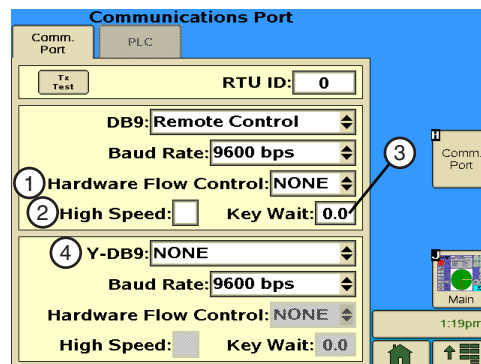

Figure 43-1 1. Hardware Flow Control Field
1. Push **Setup, Comm. Port, Comm Port** to display the Communications Port screen. Refer to Figure 43-1.
1. Select the **Key Wait** field for the com port. Refer to Figure 43-1.
To turn the High Speed Key Wait time on, check the **High Speed** check box. Refer to Figure 43-1.